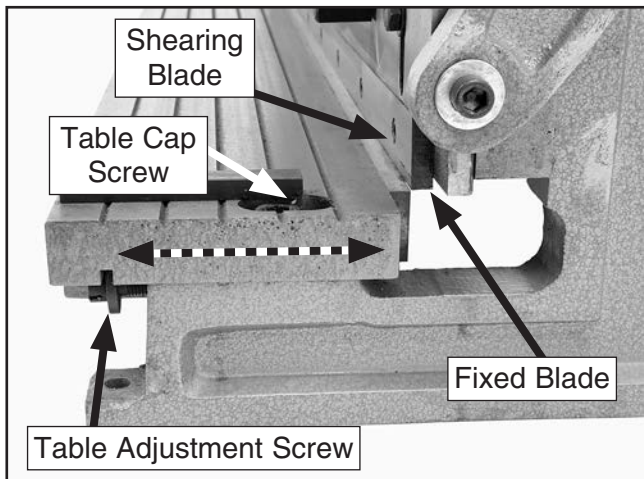

Figure 56. Adjustment screws.
1. Remove the hold-down with the 19mm wrench, and loosen the two table cap screws on both ends of the table (**Figure 56**).